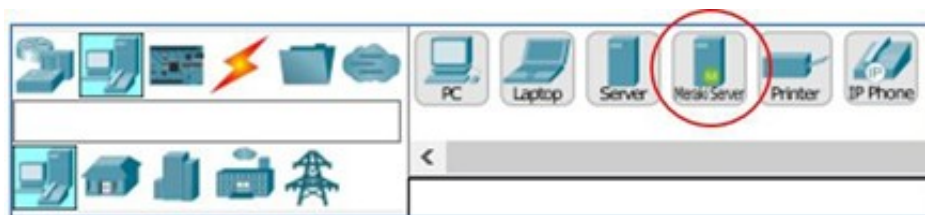

Figure 9.2: Adding the Server from End Devices
- Locate the **Server** icon and drag it into your *Logical* workspace (see Figure 9.2 for an example).